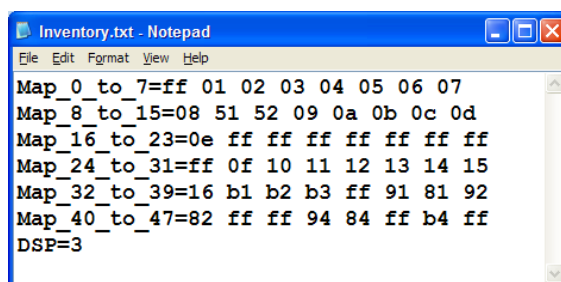

Figure 4-6. Inventory.txt File
This text file (Figure 4-6) lists the console's physical inventory of cards and panels. Most of the Map entries relate to the status of the Dual Fader channels, which are set as either a normal line input (the rotary switch is set to 0 or 7) or as a Telco channel (the rotary switch is set to 1-6). The example shows the file for an RMXd-20 console with faders 9 and 10 set as Telco 1 (51) and Telco 2 (52).